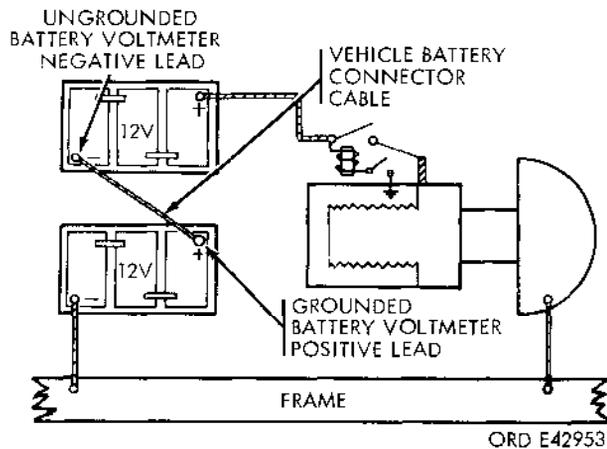

Figure 2-30. Battery connector cable test.
(3) Connect the negative voltmeter lead to the negative post of the grounded battery.
(4) Close the starter motor switch with the ignition switch in the OFF position and read the voltmeter.
(5) If the voltage reading is below 20 volts, change the selector switch to the 20-volt position and repeat (4) above.
(6) If the voltage reading is below 10 volts, change the selector switch to the 10-volt position and repeat (4) above.
(7) If the voltage reading is below 1 volt, change the selector switch to the 1-volt position and repeat (4) above.
(8) The maximum allowable voltage loss is 0.1 volt.
(9) Place the voltmeter selector switch in the OFF position, and remove the voltmeter tester leads from the frame and battery post.
c. Battery Connector Cable Test (Fig. 2-30).
(1) Move the selector switch to the 50-volt position on the tester.
(2) Connect one end of the positive (+) voltmeter lead to the positive (+) terminal of the tester, and the other end to the positive (+) post of the grounded battery.
(3) Connect one end of the negative (—) voltmeter lead to the negative terminal of the tester, and the other end to the ungrounded battery negative post.
(4) Close the starter switch with the ignition switch in the OFF position. Read the voltmeter.
(5) If voltage is less than 20 volts, place the selector switch in the 20-volt position and repeat (4) above.
(6) If voltage reading is less than 10 volts, place selector switch in the 10-volt position. Repeat (4) above.
(7) If reading is less than 1 volt, place selector switch in the 1-volt position and repeat (4) above.
(8) The maximum allowable voltage loss is 0.2 volt.
(9) Turn the voltage selector switch to the OFF position after the check is completed, and remove all test leads from the battery cable.